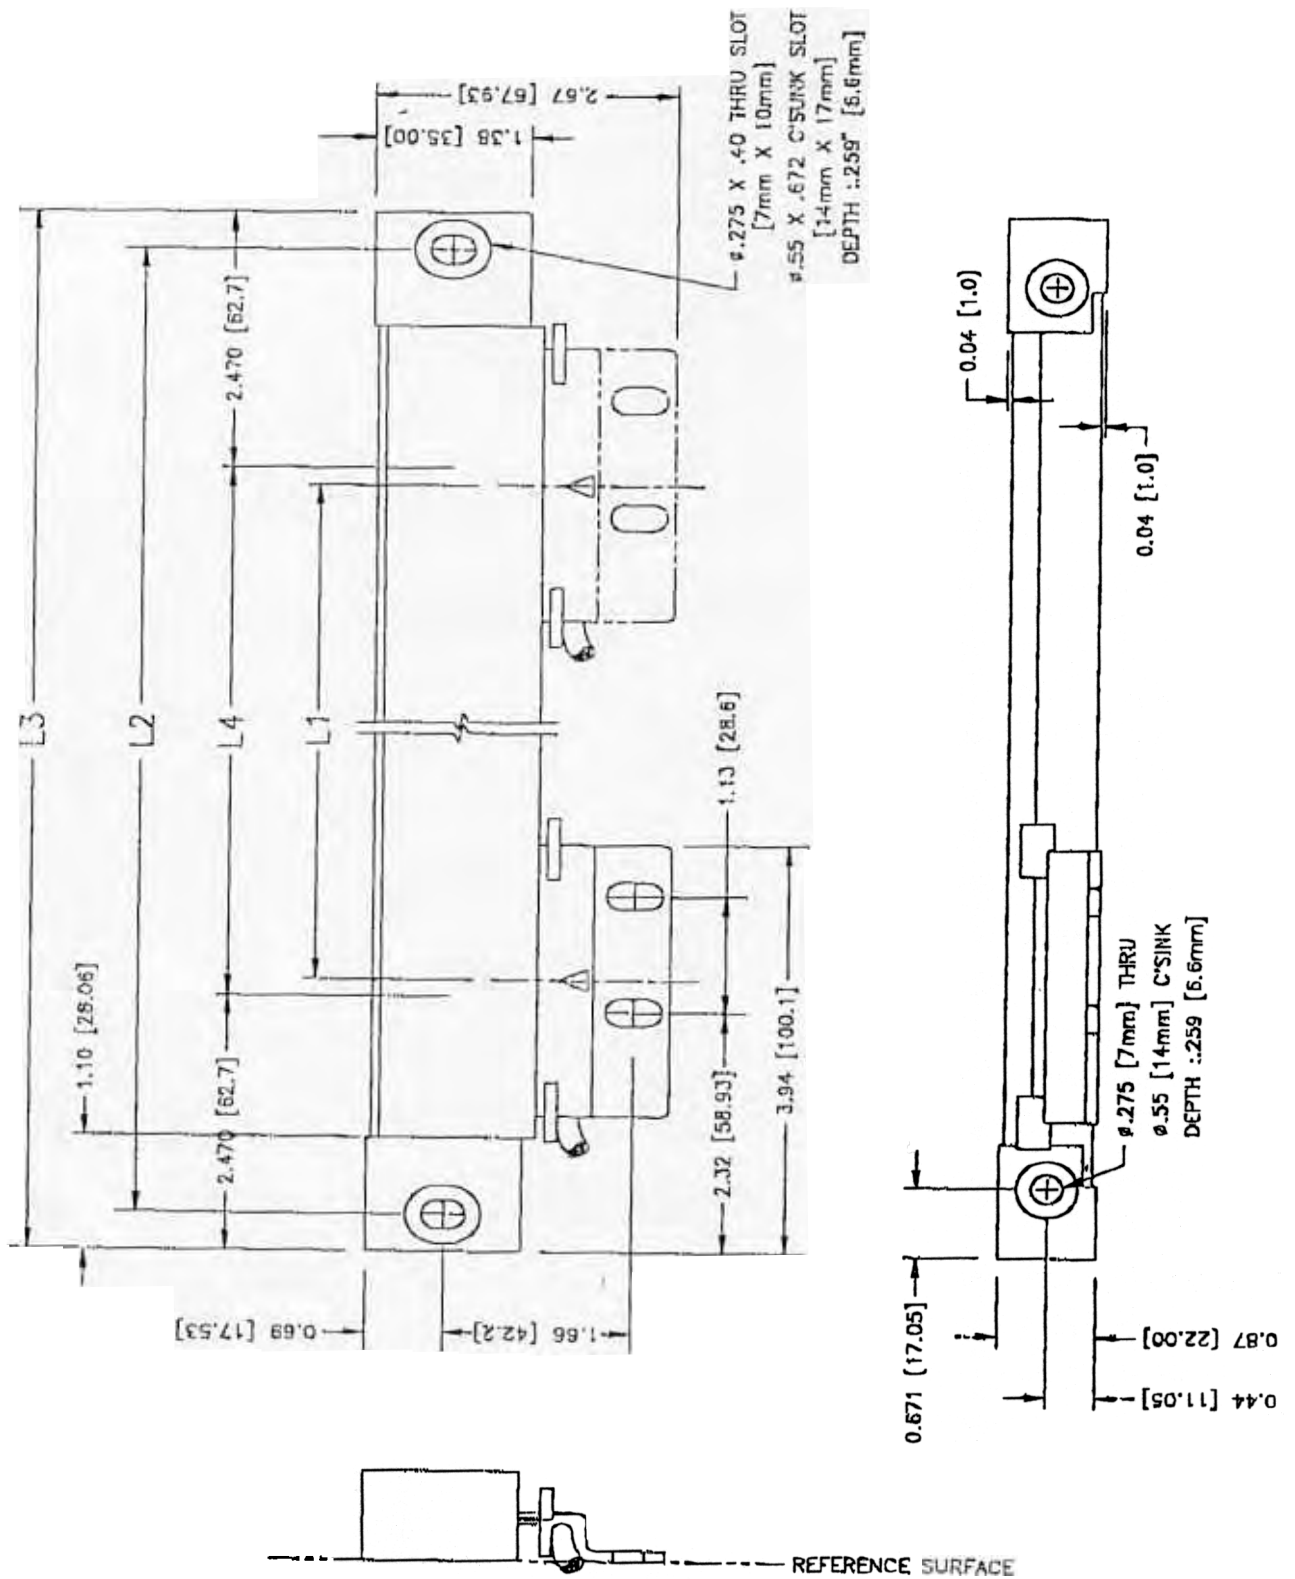

Figure 8, Scale Dimensions
To have the right size scale, the *scale nominal range (L1)* must be equal to or larger than the worktable range of travel. See Figure 8 and its accompanying table for the different scale ranges.
Design and fabricate the mounting brackets before proceeding with the installation. See Figure 8 for scale dimensions. To determine the dimensions and shape of a scale mounting bracket:
2. Determine exactly where the scale will be installed. Make sure that the center of scale's measuring range is on the center of the worktable's range of travel and the reader head is centered on the spar when the worktable is at the center of its travel. Position the scale on the worktable. Otherwise, use the dimensions in Figure 8 and its accompanying table. Note that:
Dimensions: See Figure 8 for the locations of dimensions L1 through L4.